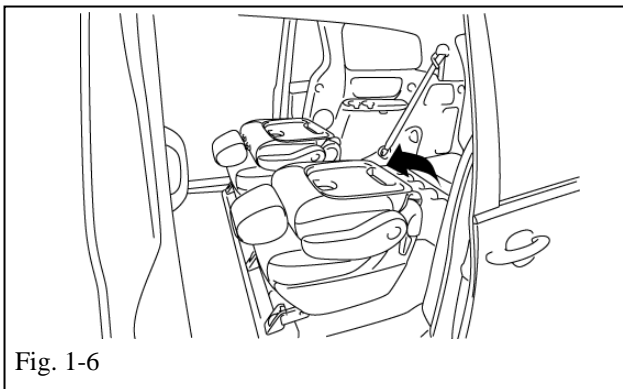

Fig. 1-6
(1) Release and fold the seatback downward. (Fig. 1-6)